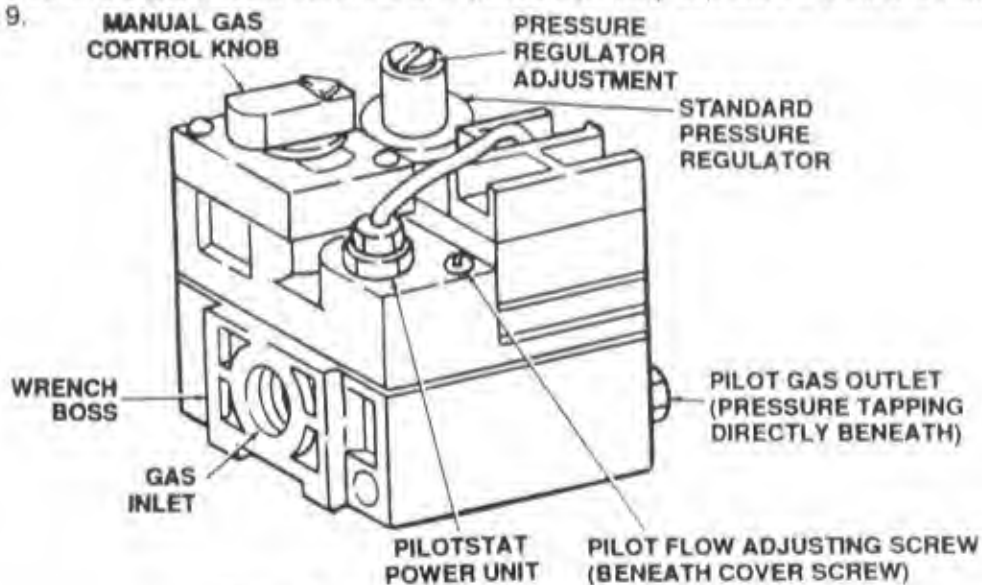

Figure 9. Gas Valve Components
- c. If the manual gas control knob on the gas valve is not in the OFF position, partially depress the knob and rotate to the OFF position. See Figure 9.